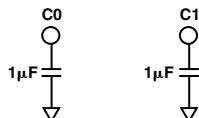

Figure 18. External Filter Capacitor Connections
Figure 18 illustrates signal-path filtering capacitors, C0 and C1. The AD1849K must use 1.0 μF capacitors.
- The Analog Devices AD1849K uses two external capacitors to complete its internal input filter as shown in Figure 18. The CS4215 calls the two pins on the AD1849K for these capacitor connections, “no connects.” By laying out a board with these capacitors, either chip will work.